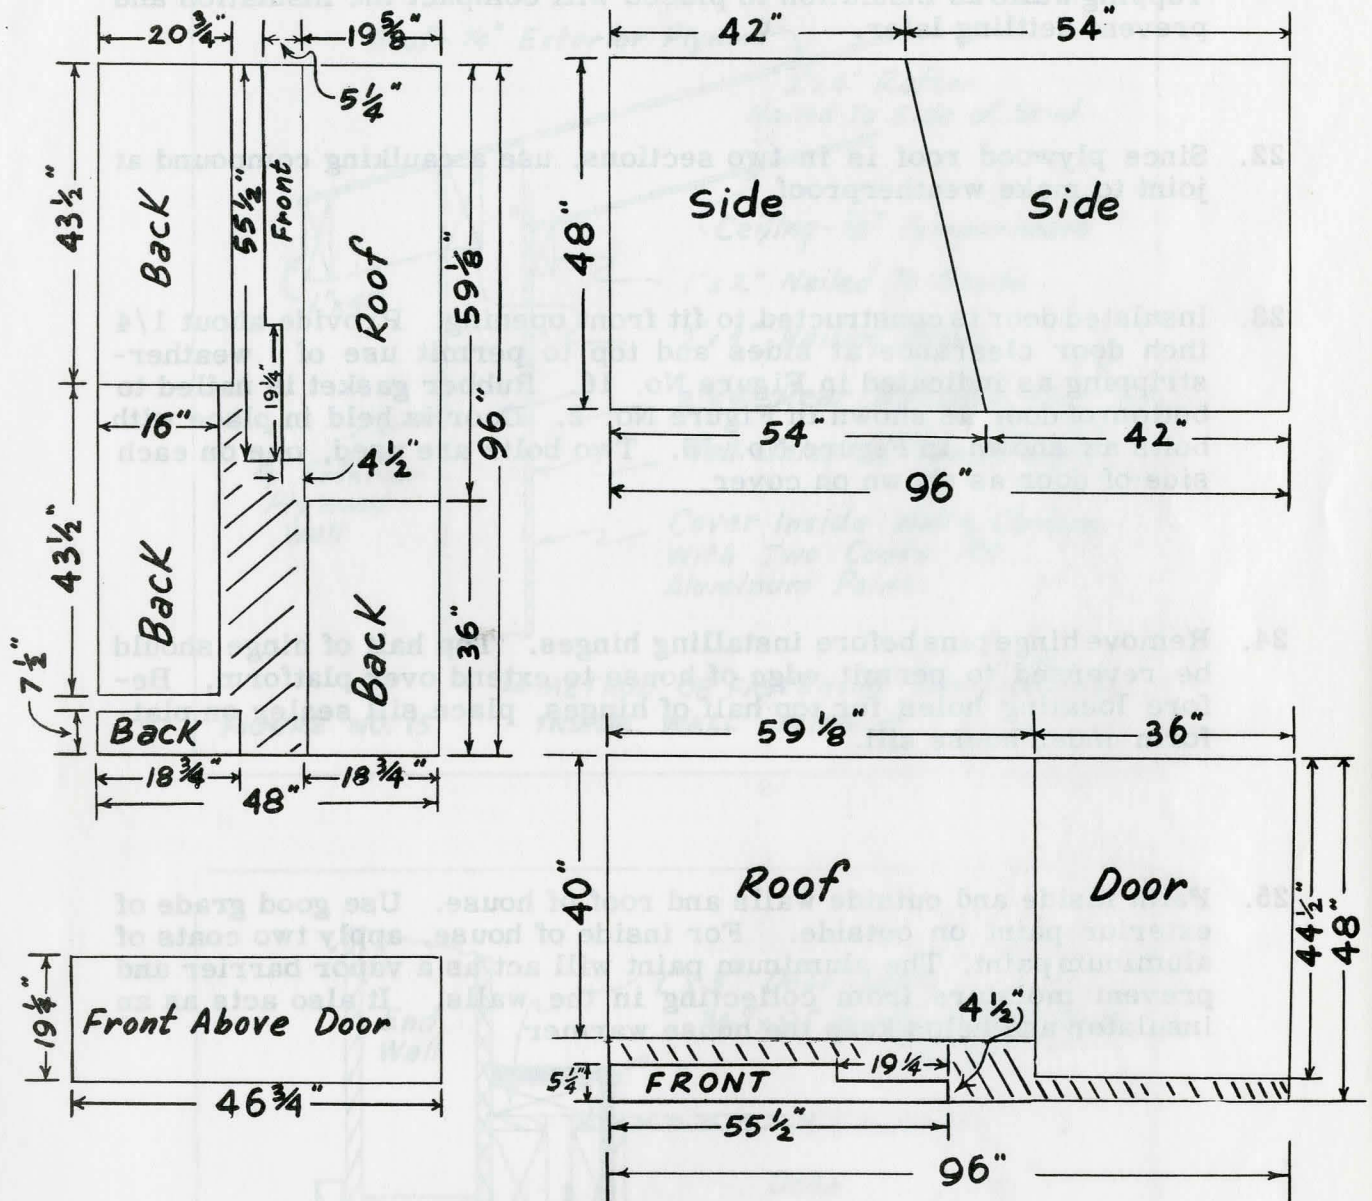

FIGURE NO. 17 - PLYWOOD CUTTING PLANS -
18. House is constructed with 2" x 4" framing, 1/4" exterior plywood and temperboard (see Bill of Materials, page 16.) Exterior plywood, made with a waterproof glue that will withstand weathering, has proved to be a durable building material. Cost will not exceed that of conventional siding. Labor is also saved during construction. (See cutting plans for plywood and temperboard, Figures No. 17 and 18.)